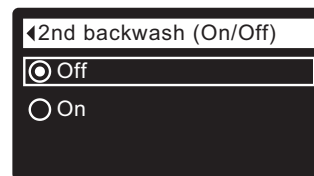

FIG. 83
- 8b. **Second backwash (On/Off):** If the desired option already has a dot next to it (See Figure 83), go to Step 9. Otherwise, press the DOWN (▼) or UP (▲) buttons to scroll to the other option, then press SELECT (O) to choose it. Setting this feature On adds a second backwash and rinse at the beginning of the recharge cycle. Default is Off. Set this feature On if your water supply contains a lot of sediment or iron.